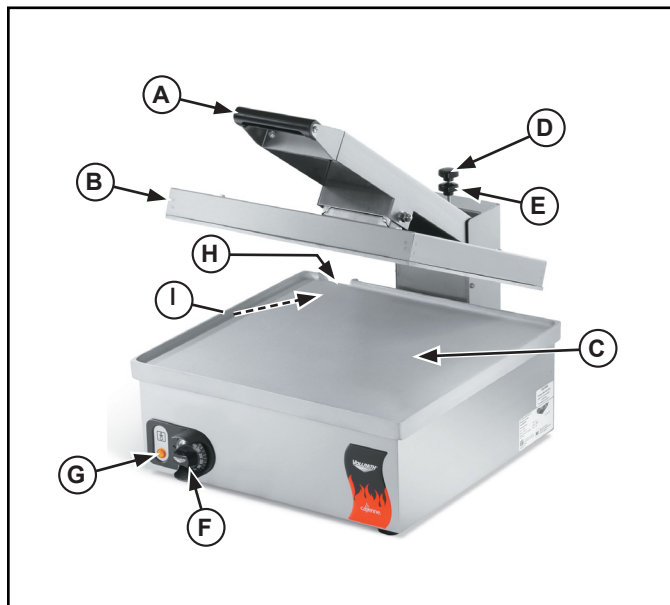

Figure 1. Features and Controls
1. Center the food product on the bottom grill plate (C) and lower the top grill plate (B). See Figure 1.
2. Adjust the height adjustment (D) until the desired level is reached. Turn the lock nut (E) to set the position of the height adjustment (D).
4. Wipe grease or oil to the drip trough (H) and into the drip cup (I). See Figure 1.
7. Empty and clean the drip cup (I).